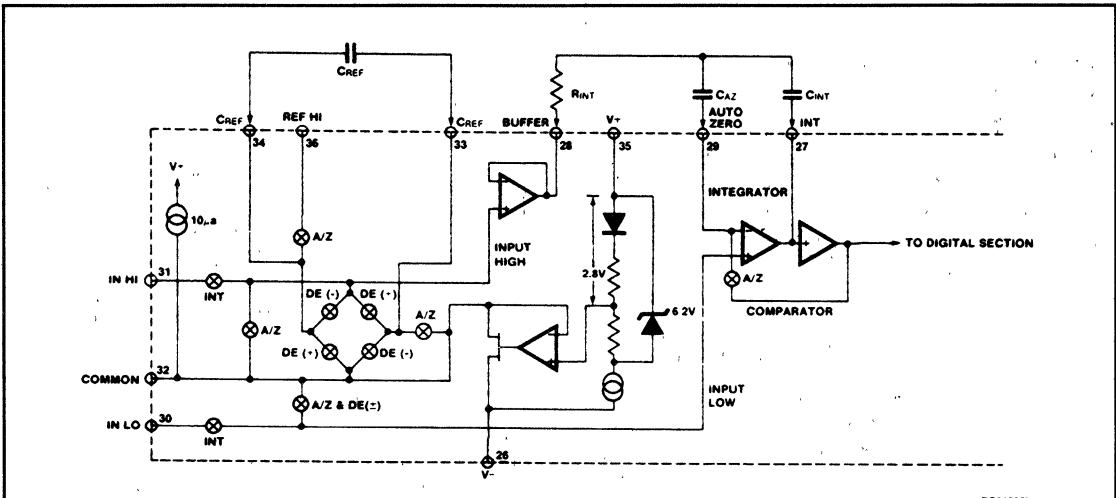
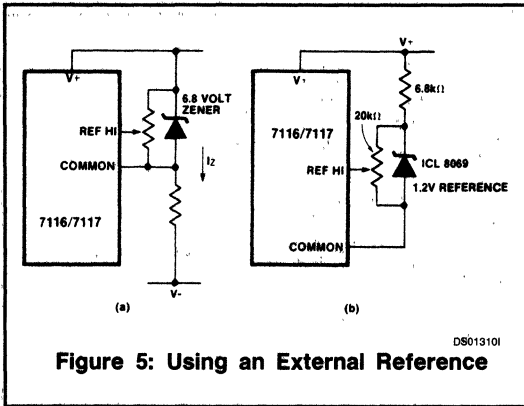

Figure 4: Analog Section of 7116/7117
Figure 5: Using an External Reference
- Unless otherwise noted, specifications apply to both the 7116 and 7117 at T_A = 25°C, f_{clock} = 48kHz. 7116 is tested in the circuit of Figure 4. 7117 is tested in the circuit of Figure 5.
Figure 4 shows the Analog Section for the ICL7116 and 7117. Each measurement cycle is divided into three phases. They are (1) auto-zero (A/Z), (2) signal integrate (INT) and (3) de-integrate (DE).
The 7116, with its negligible dissipation, suffers from none of these problems. In either case, an external reference can easily be added, as shown in Figure 5.